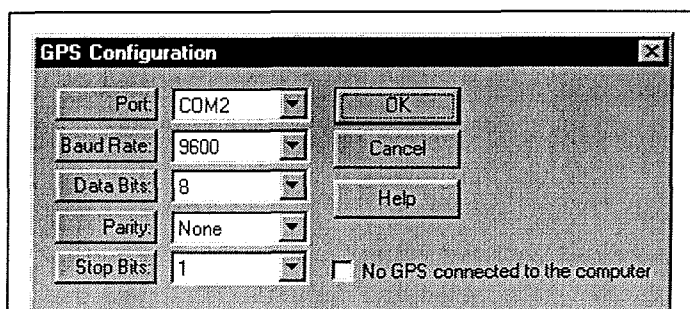

Figure 10-1. GPS Configuration dialog box.
10.3 GPS / Configuration (Figure 10-1.)